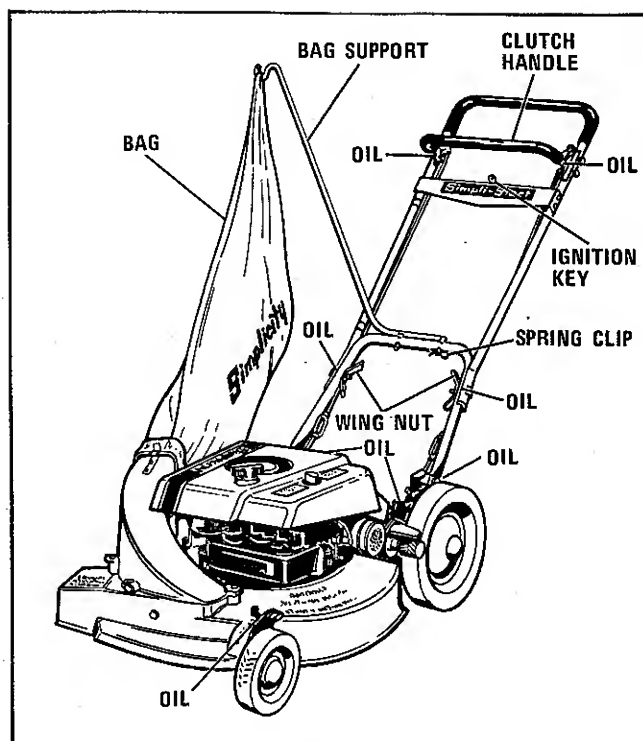

Figure 3
2. Remove the bag support rod from the handle by removing the spring clip and pulling the support rod from the handle. See Fig. 3.
1. Loosen the wing nuts. See Fig. 3.
5. Insert the two legs of the bag support rod into the holes in the lower handle cross bar as shown in Fig. 3.
2. Check engine oil supply and add oil to the top of the filler neck (if required) each time the mower is used. Put a drop of oil on the handle pivot points and height adjusters once a month or every 10 hours of mowing, whichever occurs first. See Fig. 3. The wheel bearings and the self-propelled shaft and pulley bearings are greased and sealed so require no lubrication.